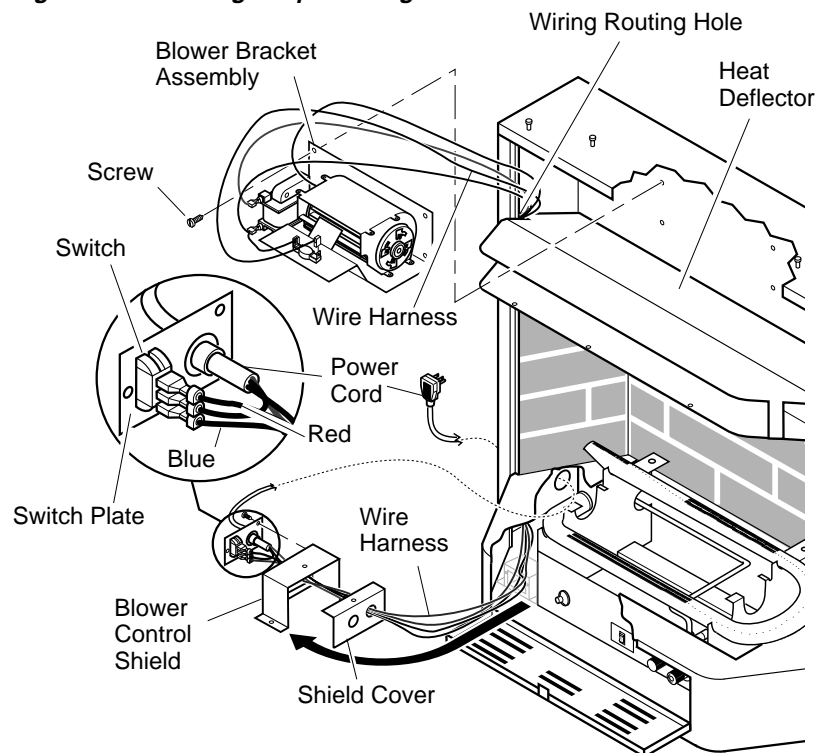
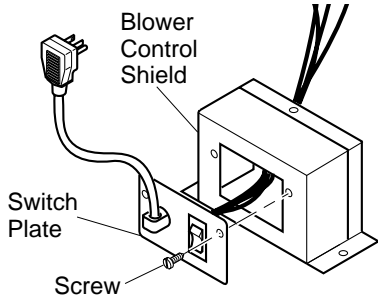

Figure 16 - Installing Blower Bracket Assembly
Figure 17 - Installing Switch Plate to Blower Control Shield
- Note the wire locations on back of AUTO/OFF/ON switch. Carefully remove red wire from the AUTO terminal and blue wire from the ON terminal. Black wire can remain on the middle or OFF terminal (see Figure 16).
- In top of the heater cabinet, locate the four mounting holes on the outer casing. Align these four holes with those on the blower bracket assembly. Attach blower bracket assembly to the outer casing with 4 - #10 screws provided (see Figure 16).
- Route the wire harness through the hole to the left side of heat deflector. Pull wire harness through lower opening to the left of the blower control shield. (see Figure 16).
- Insert the 4 wire harness into one of the round holes in the rear of the blower control shield and through the rectangular hole in the front of shield (see Figure 16).
- Install the switch plate on the blower control shield with 2 - #10 screws provided (see Figure 17, page 11). Route power cord out of the cabinet by inserting it through the bushing on the outer casing (see Figure 16). Plug fan kit into 120-Volt grounded power supply and test operation. *Note:* When switch is in the AUTO position, the fan will start after the heater has run for a few moments. The fan will continue to run for several moments after the heater has been turned off. When switch is in the ON position, the fan will run until turned to OFF. Reinstall hood assembly and close lower louver door.